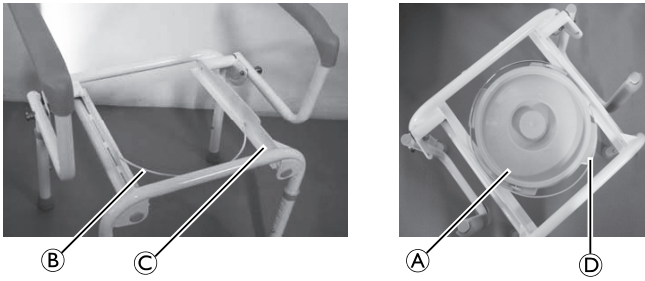

Fig. 3
3.1 Installing the pail (Fig. 3)